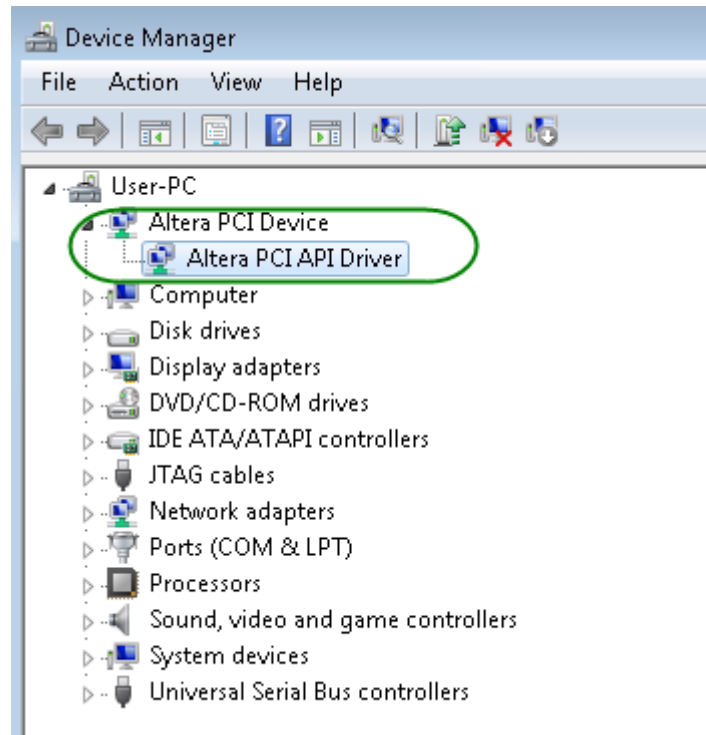

Figure 8 Altera PCI API Driver in Device Manager
12. Once the driver is successfully installed, users can see the **Altera PCI API Driver** under the device manager window, as shown in **Figure 8**.